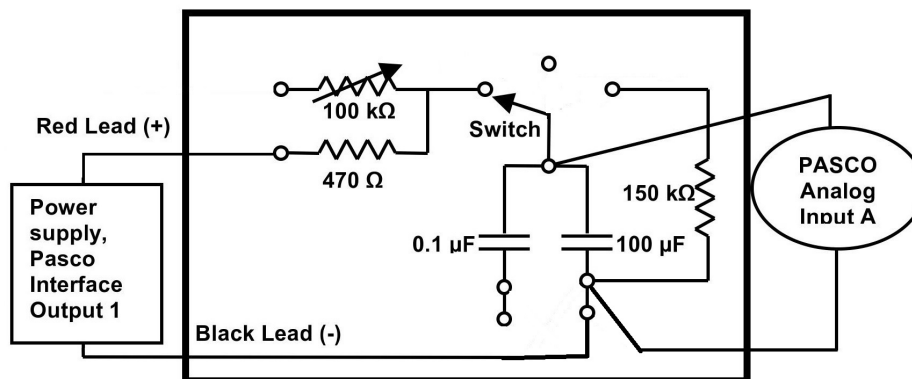

Figure 2.3: Circuit for session 1. This is currently connected to the rheostat.
1. Turn the wooden board over to reveal the circuit Fig. 2.3. There are actually two circuits here, one consisting of a $100\text{k}\Omega$ rheostat (variable resistor) and the $100\mu\text{F}$ capacitor, the other consisting of a 470Ω resistor and a $0.1\mu\text{F}$ capacitor. We will not use the $0.1\mu\text{F}$ capacitor, or the rheostat.
2. Connect the Output 1 of the PASCO 850 Universal Interface to the wooden board's terminals as well as the Analog Input A in order to complete the circuit as shown on Fig. 2.3. The $100\mu\text{F}$ capacitor can now charge through the 470Ω resistor (when in the "charge" state) and discharge through the $150\text{k}\Omega$ resistor (when in the "discharge"
1. Connect the circuit as shown in Fig. 2.3.
11. Answer the following questions in the results section of your log book. Should all the time constants be the same or different? Why and why not? What would happen if we had used the rheostat instead of the 470Ω resistor in Fig. 2.3 and used a DC voltage source (with the On/Off switch on the board) instead of a wavefunction source: would we have the same time constant for both charging and discharging? What would happen to the time constant if we increased the resistance by using the rheostat? If you have time, you should test your hypotheses experimentally.